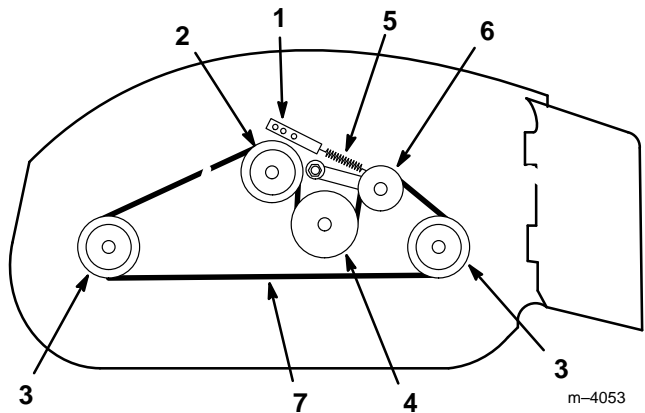

Figure 23
2. Grease the fittings on the three spindle bearings and the idler arm (Fig. 23).
3. Remove nut securing spring anchor to housing and lift spring anchor from bolt (Fig. 23).
4. Remove the worn mower belt (Fig. 23).
5. Install new mower belt around the three spindle pulleys, the idler pulley, and the gearbox pulley (Fig. 23).
6. Pull on the spring anchor and connect to anchor bolt (Fig. 23).